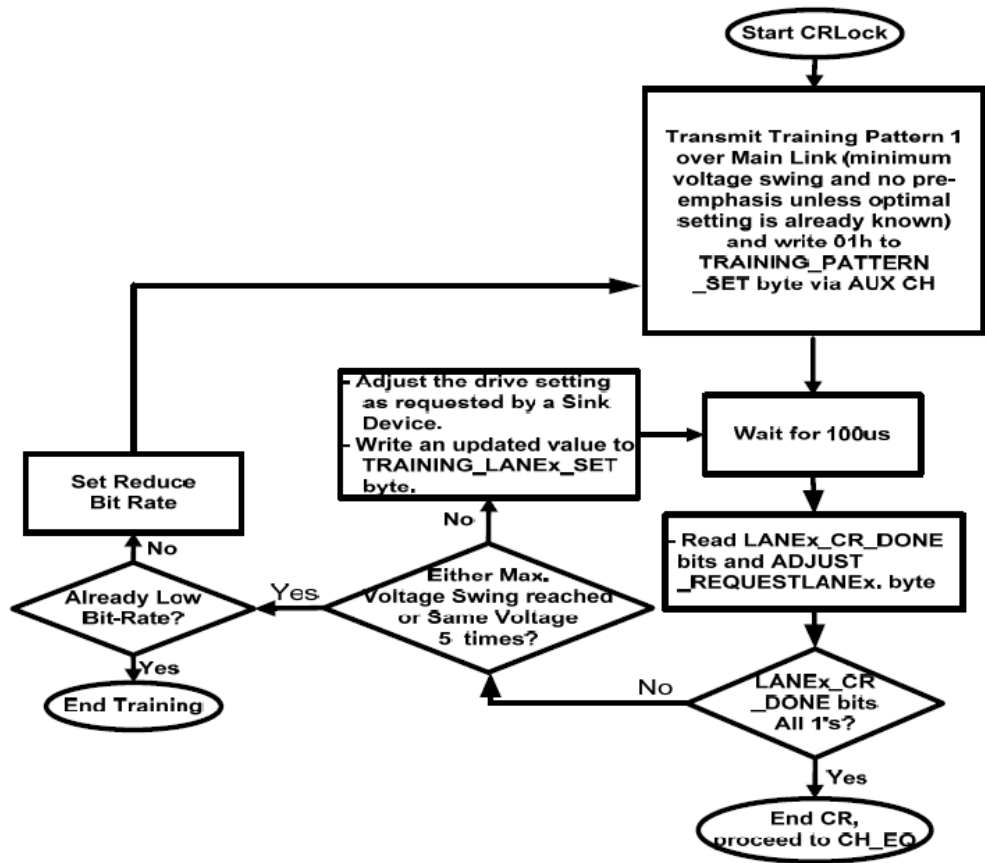
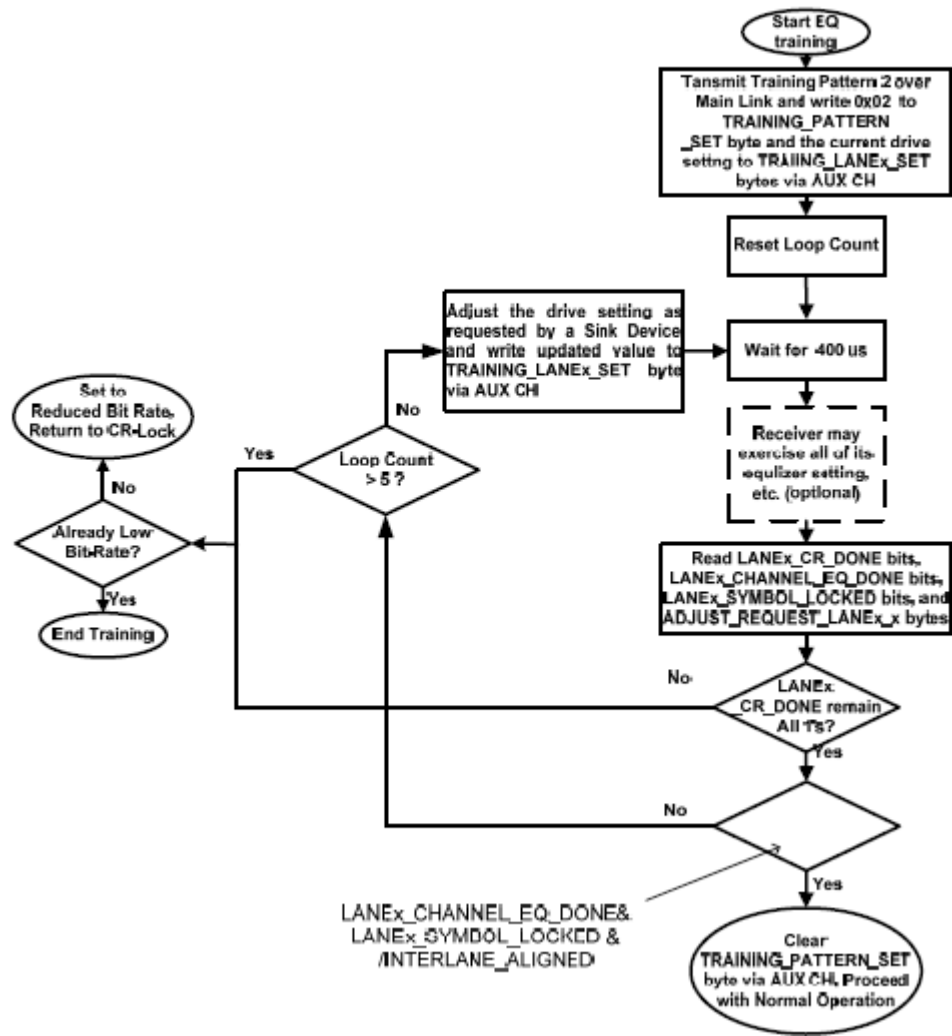

Figure 186 Clock Recovery Sequence
Figure 187 Clock Equalizer Sequence
- k Source reads LANE0_1_STATUS, LANE2_3_STATUS and LANE_ALIGN__STATUS_UPDATED. Because these registers are already set in a previous step, the source exits the Clock Recovery Sequence for Link Training (Figure 186) and goes to the Channel Equalizer sequence for Link Training (Figure 187).